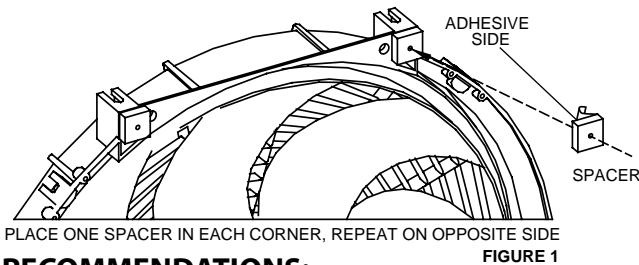

FIGURE 1
2. Peel backing and stick 4 spacers on fan shroud as shown in fig 1. Install the remaining 4 spacers on the tie straps as shown.